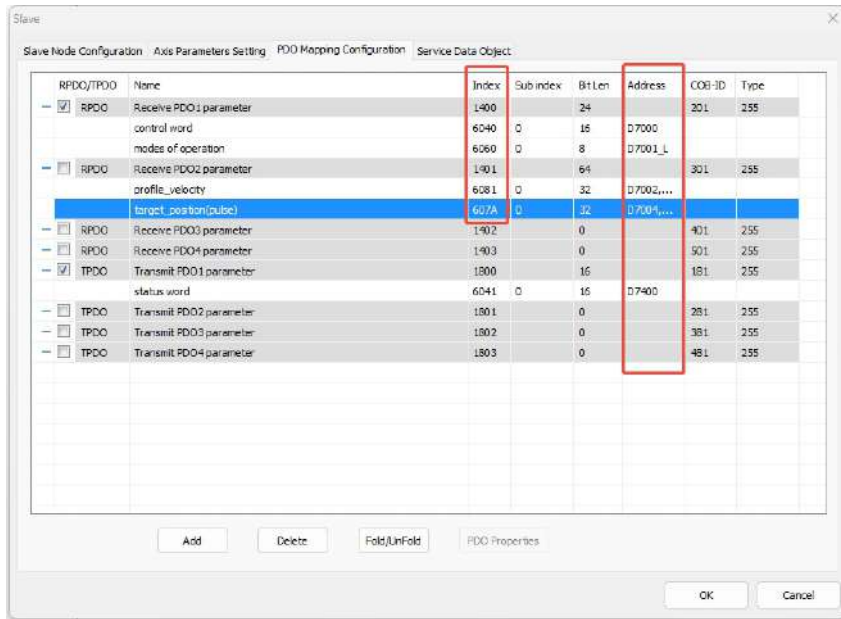

Figure 3-18 PDO Mapping
Step 9: After adding the basic indexes needed for Profile Velocity Mode to the PDO mapping, note the corresponding address variables (highlighted in red in Figure 3-18). Click OK to exit the configuration interface. Each time you modify the PLC program, download it to the PLC and switch the PLC to Run mode.